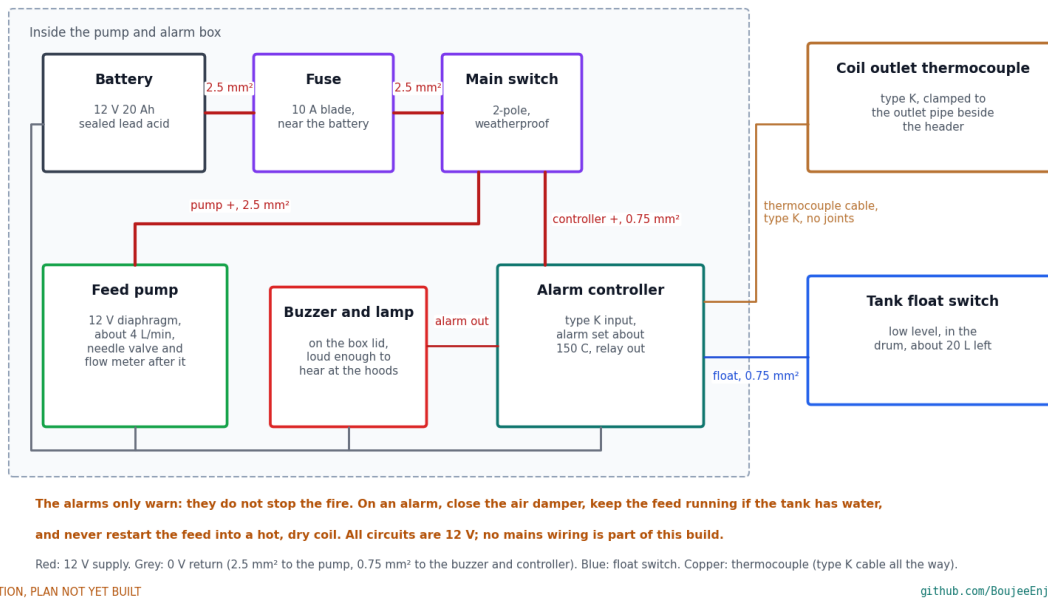

Figure 33. Block-level wiring of the 12 V parts. All circuits are 12 V from a sealed lead acid battery; there is no mains wiring.
What to do to it. Mount the parts on a board in the box and wire them as Figure 33 shows: battery through a 10 A fuse and the main switch to the pump and the controller in 2.5 mm² and 0.75 mm² wire; the type K thermocouple, clamped to the coil outlet pipe beside the header, back to the controller in type K cable with no joints; the drum's float switch to the controller; the controller's relay to the buzzer and lamp. Fit a cable gland for each cable that enters the box.
- **Battery (line 13), instruments (line 14), alarms (line 16).** As Figure 33; a 0 to 1 bar steam gauge with a siphon; four type K thermocouples and a reader.